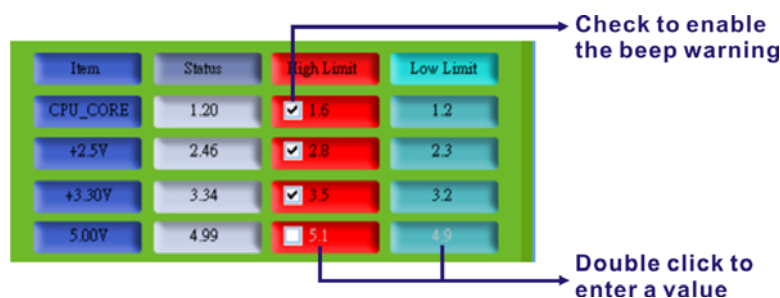

Figure 8-6: Voltage Page – High Limit and Low Limit
Step 1: Double click a high limit value or a low limit value to enter the new value (Figure 8-6).
Step 2: Check the high or low limit value to have the system use the beep warning when the specified system voltage is greater or smaller than the high limit or low limit (Figure 8-6). (Make sure to enable beep/audio alarm on the Load/Save Page. Refer to **Section 8.8**)